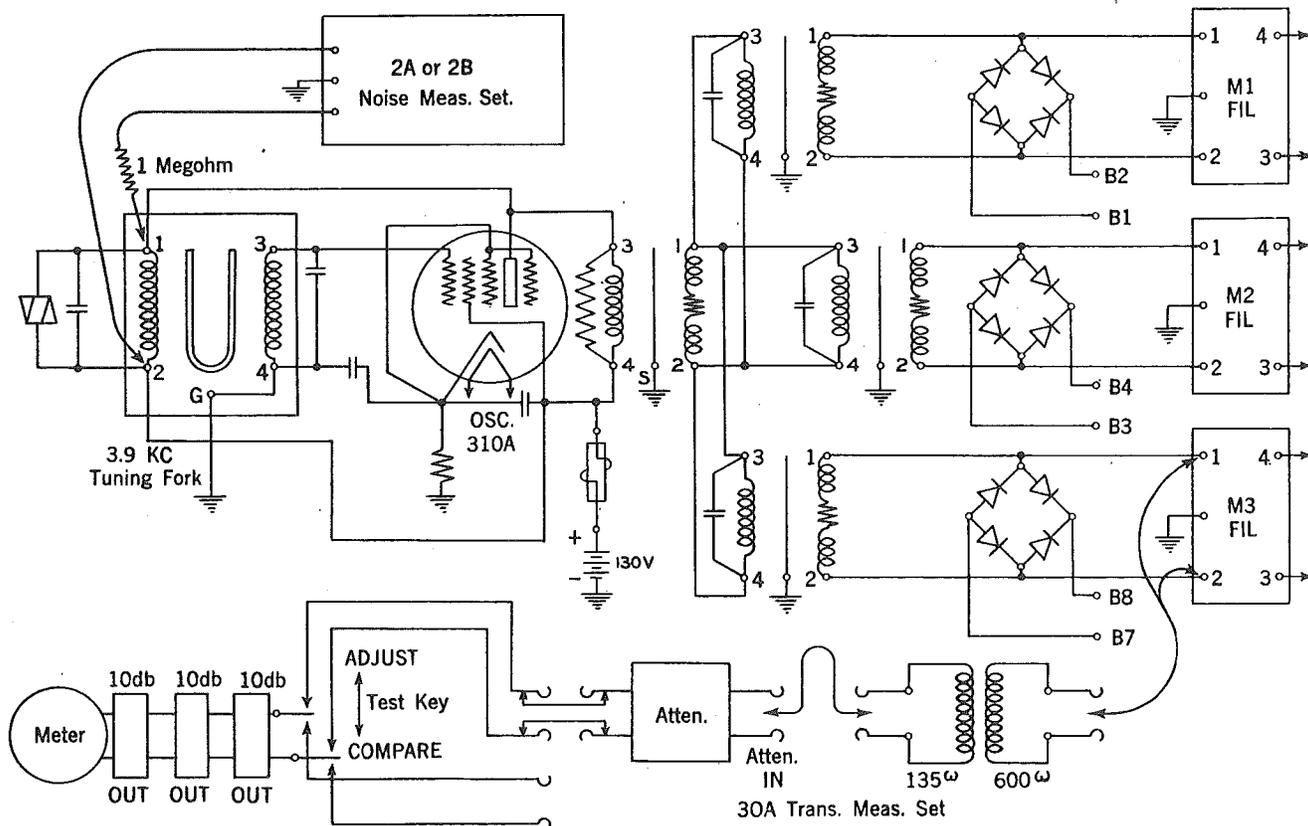

Fig. 3 - Type K 3.9-Kc Pilot Channel Generator Output
3.18 Procedure - Output Measured at Filters - See Fig. 3:
3.19 Procedure - Loss Measurement Through 3.9-Kc Tuning Fork - See Fig. 3: